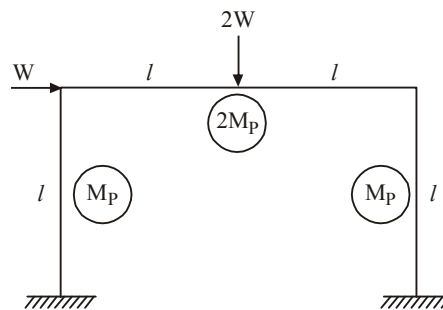

FIG. 4
8. Compute the collapse load of the structure shown in Fig. 4 Draw BMD at collapse.